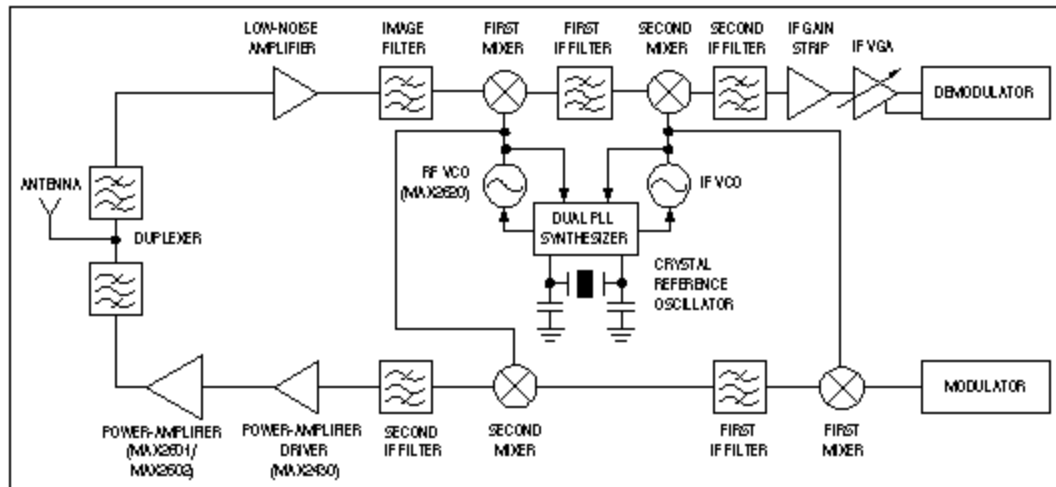

Figure 1. VCOs appear as part of the PLLs in this typical superheterodyne receiver.
The frequency of a voltage-controlled oscillator (VCO) varies with the voltage applied to its tuning port. Operating in a phase-locked loop (PLL), the VCO provides a stable local oscillator (LO) for frequency conversion in superheterodyne receivers. VCOs are also used in transmit chains, where they upconvert the baseband signal to a radio frequency (RF) suitable for transmission over the airwaves (**Figure 1**).